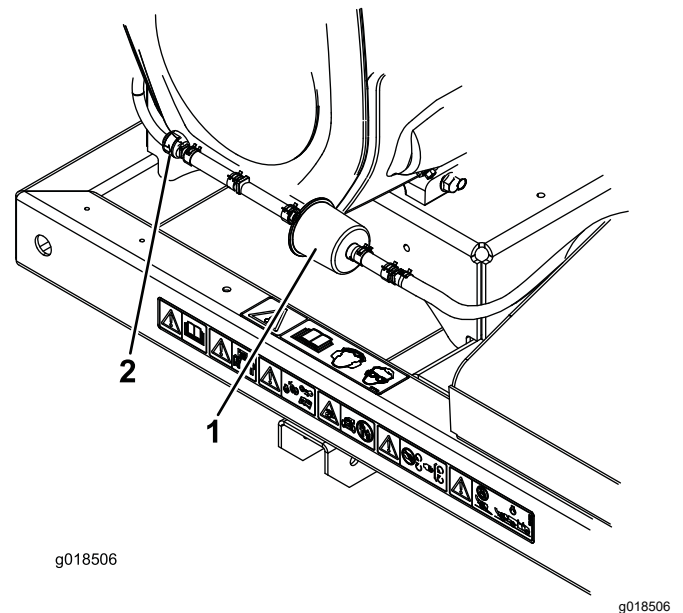

Figure 24
2. Move the spring-type hose clamps on both sides of the carbon canister purge-line filter away from the filter (Figure 24).
3. Remove and discard the carbon filter (Figure 24).
4. Install a new filter into the hose with the arrow on the filter pointing toward the check valve and secure it with the hose clamps (Figure 24).